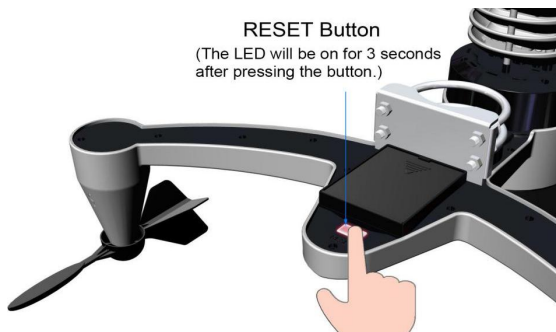

Figure 13
**Note:** If the sensor does not power up after inserting batteries, press the reset button as shown in Figure 13.